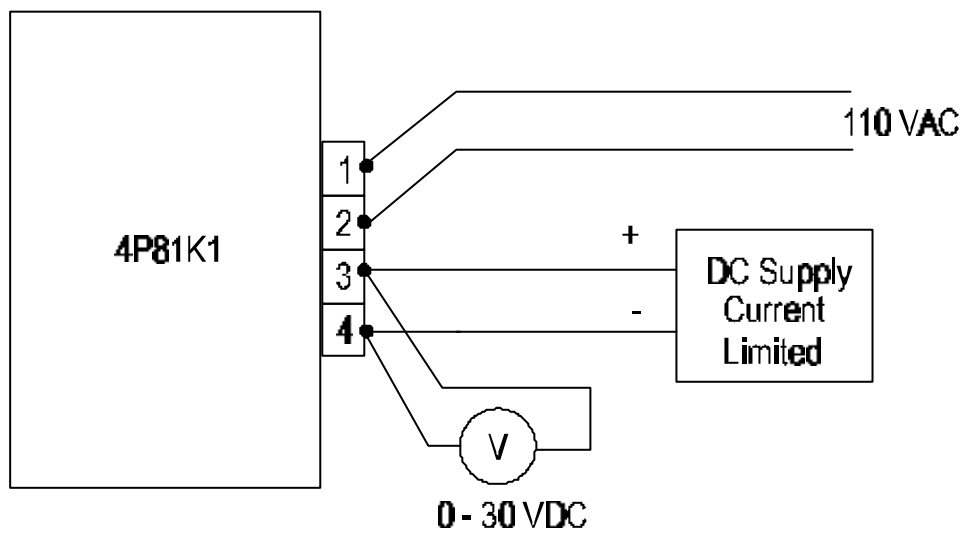

FIGURE 2
- (a) Connect an external current limited power supply and voltmeter as per Fig 2